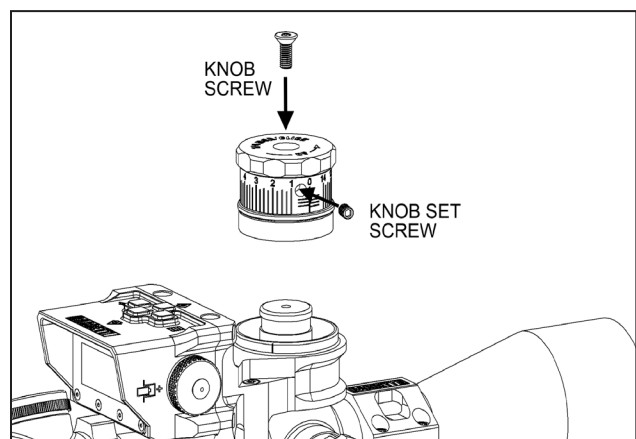

Figure 7.
- Place the BORS elevation knob over the knob adapter. Ensure the knob is fully seated on the adapter then secure T25 knob screw to 15 in/lbs. and tighten the knob set screw to 12 in/lbs. Figure 7.